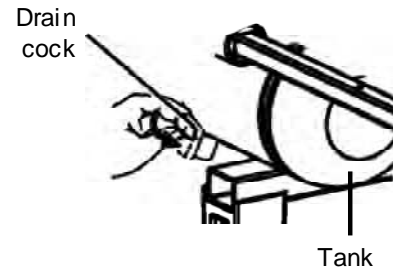

Fig.10
- (2) Unplug the plug from power source.
- (3) Open the drain cock located at the lower part of the tank (Fig. 10).
Drain tank daily or after 4 hours of use. Open drain cock and tilt compressor to empty accumulated water (Refer to Fig. 10).